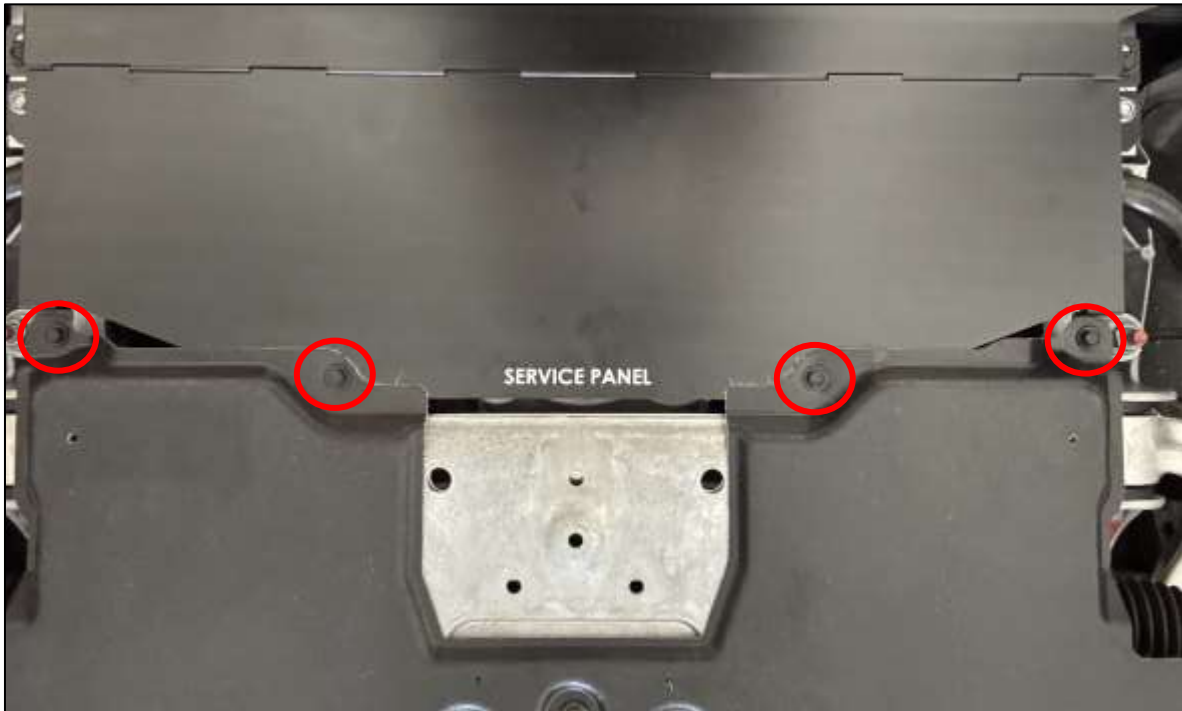

Figure 7
10. Unbolt the (4) four bolts securing the Underbody Panel. Non-NISMO models will not have this panel. *Figure 7.*